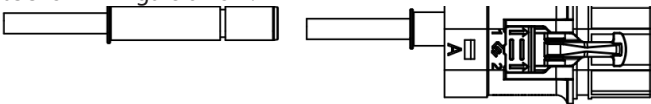

Figure 6-18-4 Insert the assembled rubber core
- 4) Thread the crimped cable into the rubber core, and insert the assembled rubber core into the outer shell, as shown in Figure 6-18-4.